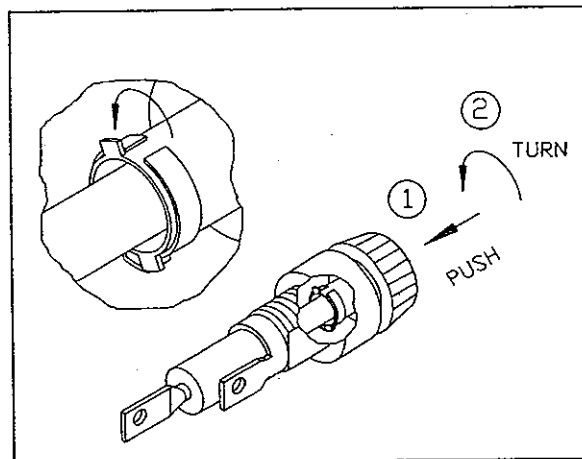

Fig. 2
2. Push the fuse holder in and then turn the holder counterclockwise to remove (see Fig. 2).